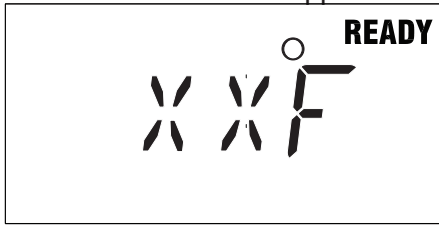

Figure 1
- Wait for the home screen to appear. See *Figure 1*.